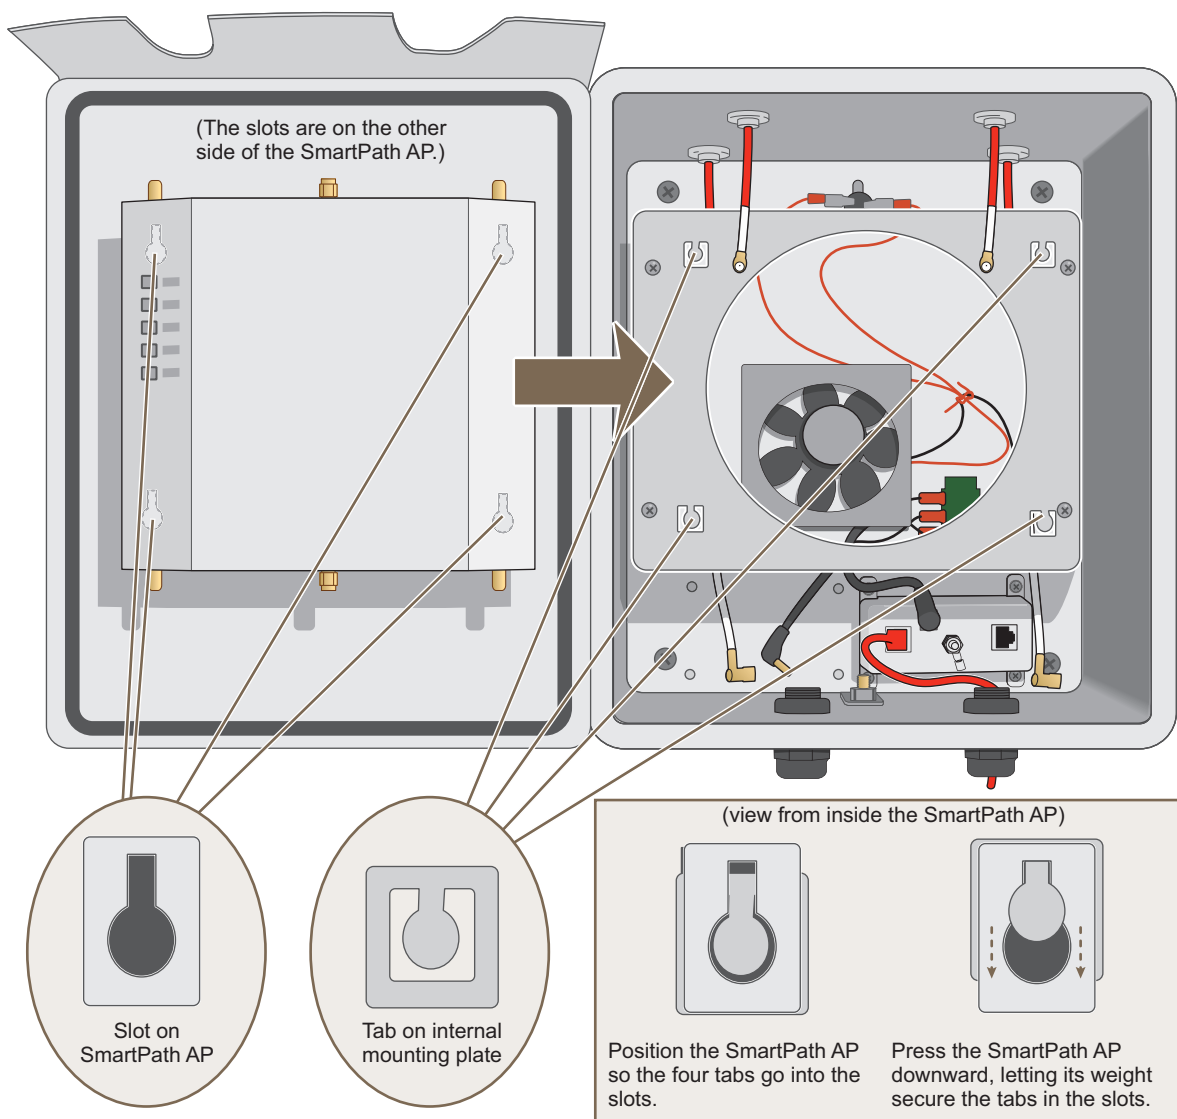

Figure 10. Attaching the SmartPath AP (LWN602HA) to the internal mounting plate.
1. Align the four slots on the rear of the SmartPath AP (LWN602HA) with the four tabs on the mounting plate. Then press the SmartPath AP against the plate and downward, until the tabs slide inside the slots locking the SmartPath AP in place as shown in Figure 10.